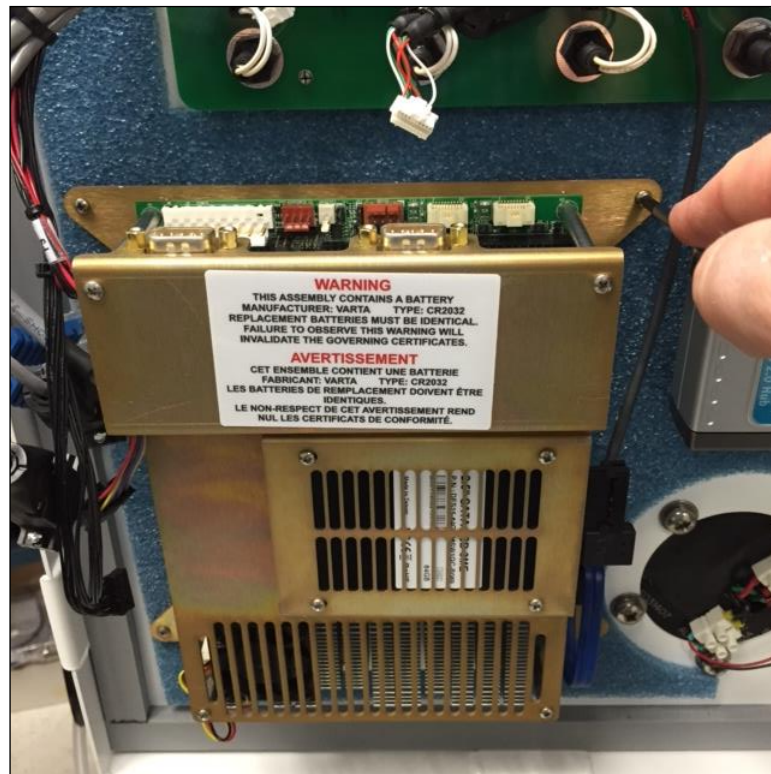

Figure 139. Remove pan head machine screws
8. Remove four (4) pan head machine screws that attach the computer assembly to the Raman Rxn5 door (Figure 139). Pull the computer assembly from the Raman Rxn5.